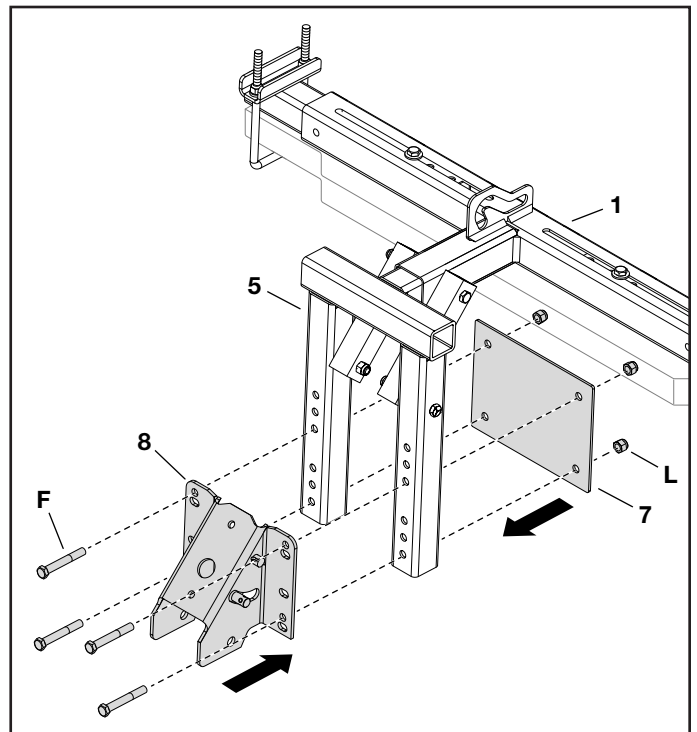

FIGURE 5
STEP 5: (SEE FIGURE 5)
- Attach the pivot support bracket assembly (8) and the plate brace (7) to the blade mount assembly (5) using four hex bolts (F) and four hex nuts (L). Tighten hardware.